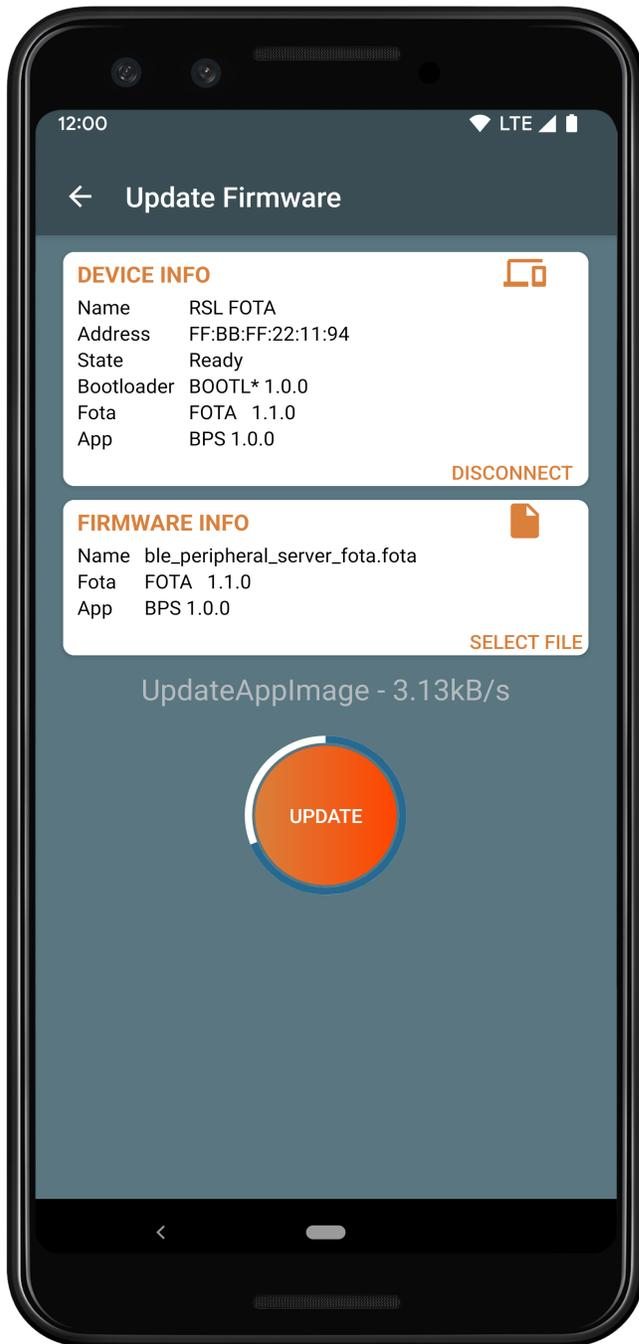

Figure 25. RSL FOTA Mobile Application: Updating Firmware
4. Once the FOTA firmware image file is selected, click the **Update** button (see the "RSL FOTA Mobile Application: Updating Firmware" figure (Figure 25)).